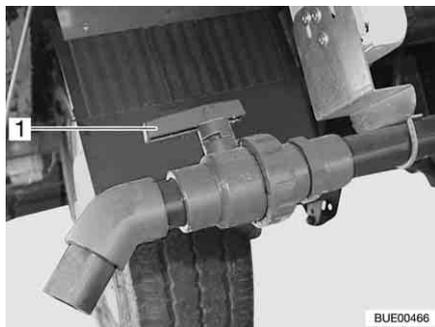

Fig. 246 Drain cock
- Turn the handle (Fig. 246,1) of the drain cock in flow direction.